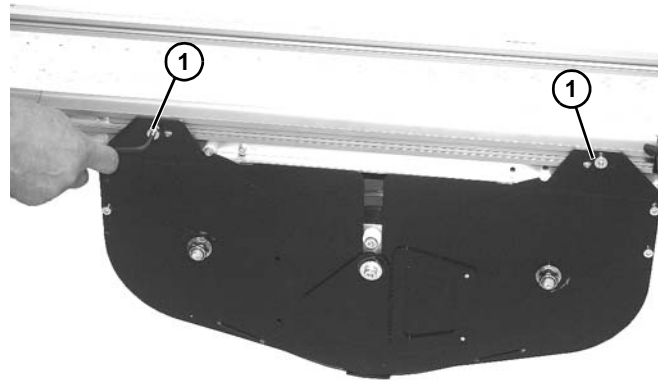

Figure 65
5. Install and tighten two screws (Figure 65, item 1) on each side to secure assembly to frame.